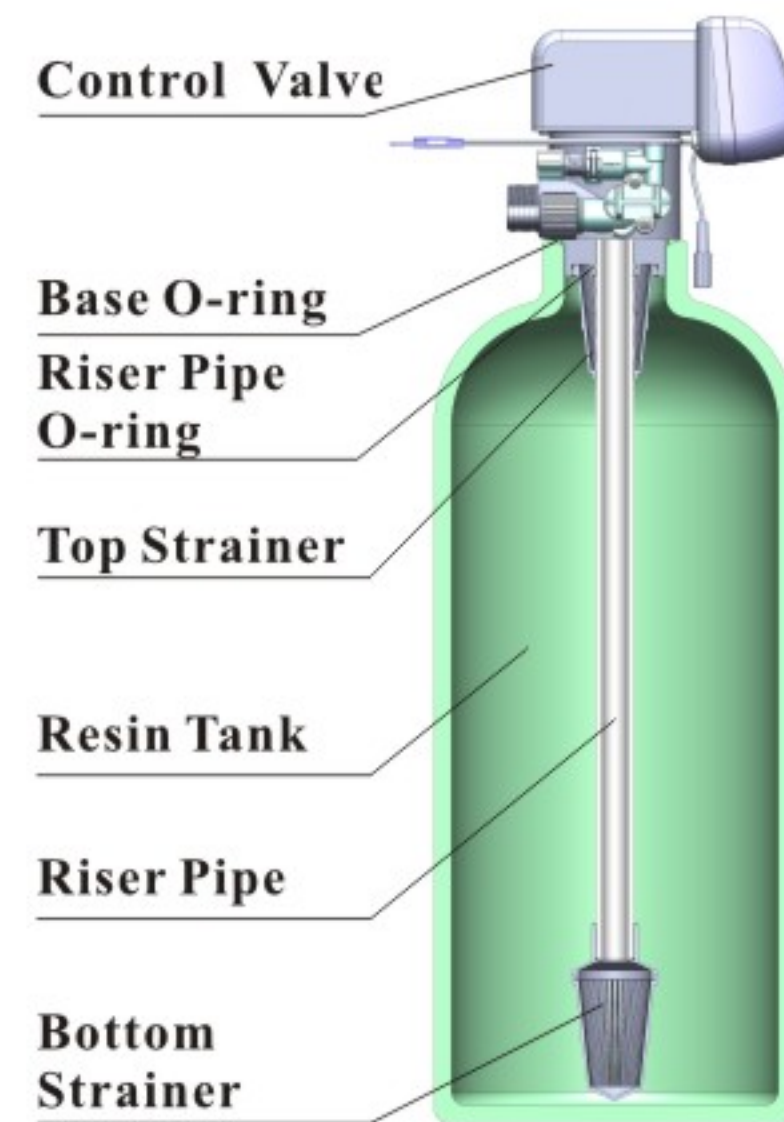

Figure 1-1
① Install control valve
a. As the Figure 1-1 shows, select the riser pipe with 26.7mm OD, glue the riser pipe to the bottom strainer and put it into the mineral tank, cut off the exceeding tube out of tank top opening. Plug the riser tube in case of mineral entering.